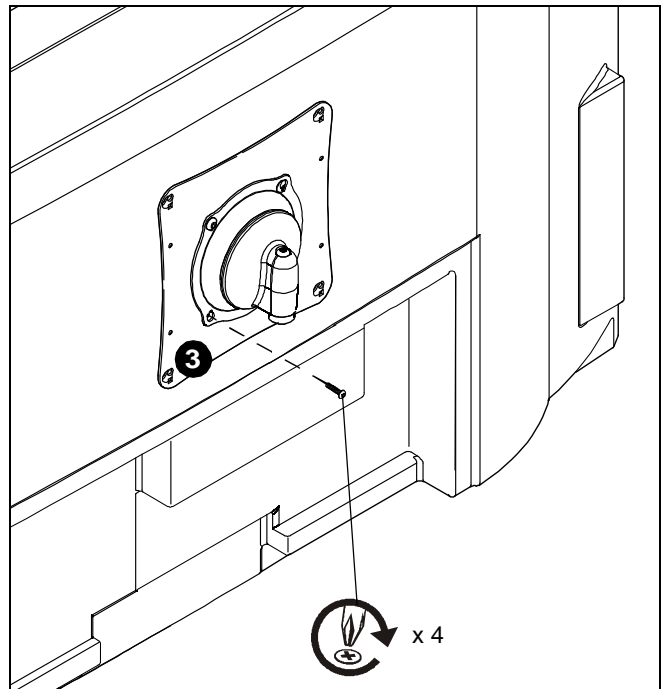

Figure 8
- Hold display so that display back is against Centris cup and install two Phillips pan head machine screws through lower mounting holes in Centris cup and into lower mounting holes in interface bracket (A). (See Figure 8)